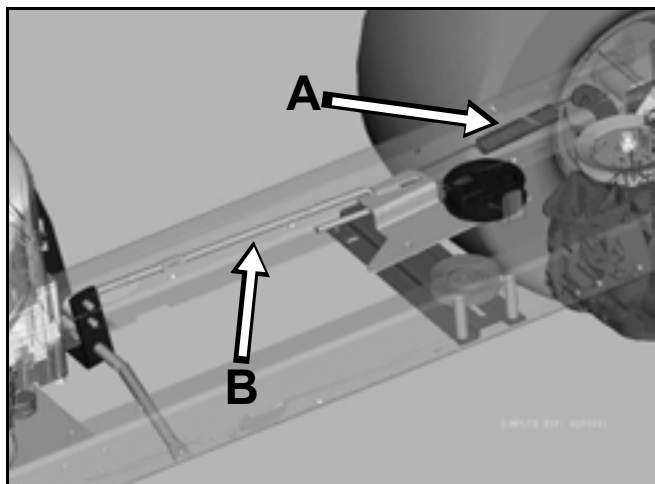

Figure 19
4. Install brake spring to the clutch/brake rod (Figure 19).